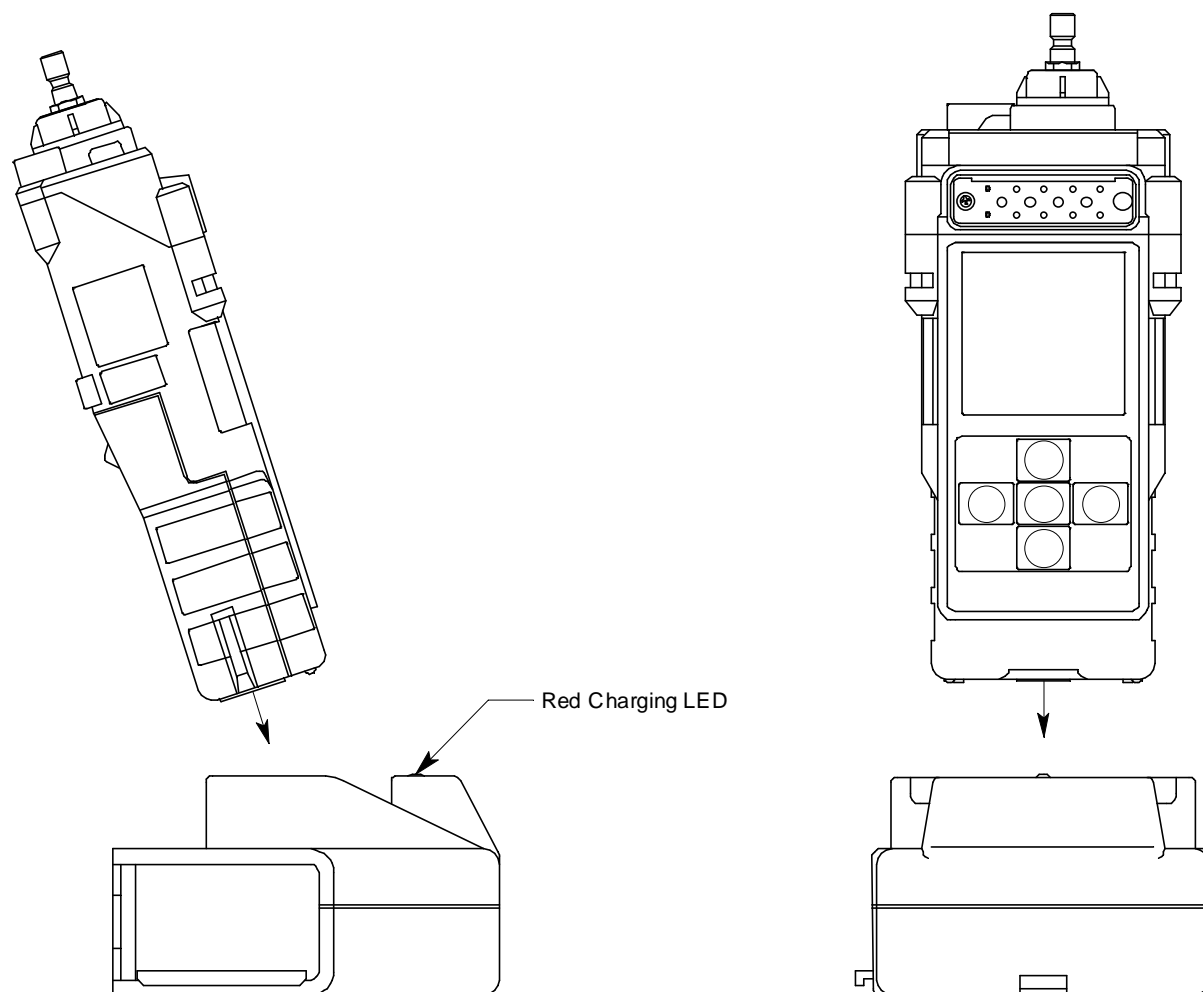

Figure 22: Putting the Gas Tracer into the Charging Station
4. Place the Gas Tracer into the battery charging station as shown in Figure 22 below so that the metal contacts on the back of the unit come into contact with the metal contacts on the back of the holder in the charging station. When proper contact has been made, the red LED on the charging station will turn on.